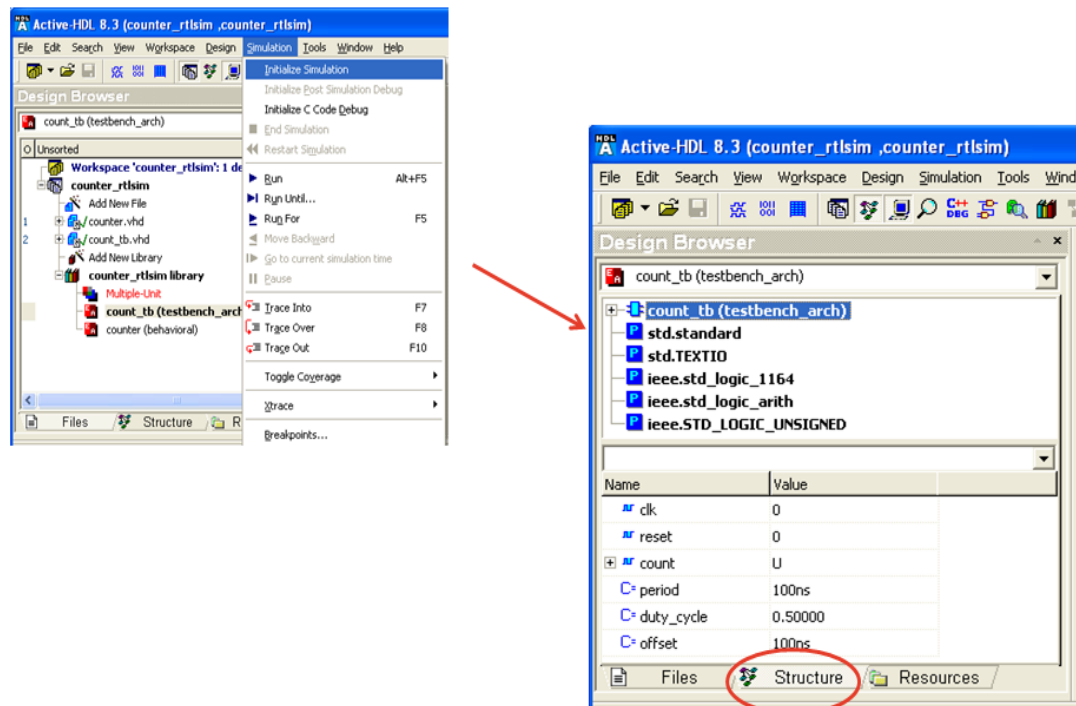

Figure 10-10 : Initialize Simulation.
9. Click on Simulation > Initialize Simulation. After Initialization, the “Design Browser” view will be changed from “file” view to “Structure” view as shown in Figure 10-10.